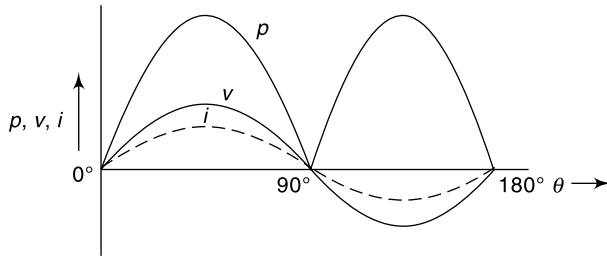

Fig. 5.28 Instantaneous power in a pure resistive circuit
Instantaneous power $p = vi = V_m I_m \sin^2 \theta = \frac{1}{2} V_m I_m (1 - \cos 2\theta)$. The voltage, current and power waveform are shown in Fig. 5.28.
The power waveform in Fig. 5.28 is obtained by multiplying together at every instant the corresponding (instantaneous) values of voltage and current. It is seen that p remains positive throughout the cycle irrespective of the direction of voltage and current in the circuit. This is due to the fact that as voltage and current are in phase so either both voltage and current are positive or both are negative at any instant of time. So their product (p) is always positive. This shows that power flow is only in the direction from the source to the load resistance (R) and this power is called active or real or true power (P_R).